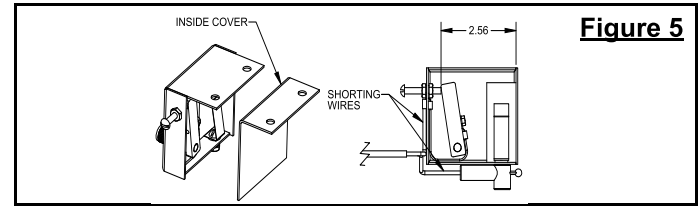

Figure 5
1. Assemble wire harness (15) to both screws on safety switch (11) and reset screw height as shown in Figure 5.